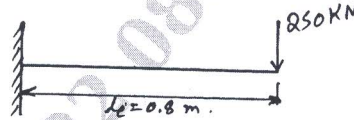

Fig.Q5(b)
b. A cantilever beam subjected to point load of 250 kN as shown in Fig.Q5(b). Determine the deflection at the free end and the support reactions. Take $E = 200 \text{ GPa}$, $I = 4 \times 10^6 \text{ mm}^4$ and $l_e = 0.8 \text{ m}$